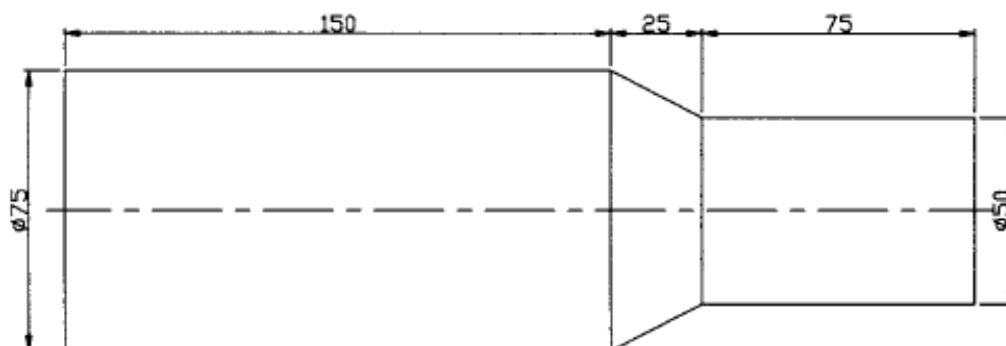

Figure 5
3. Consider the component in Fig.5. The component is to be made from mild steel with carbide tooling at a constant surface speed of 100 m/min on a lathe with a maximum spindle speed of 1500 rpm. The machining allowance is 2mm. Determine the total machining time for the component if the lathe is capable.